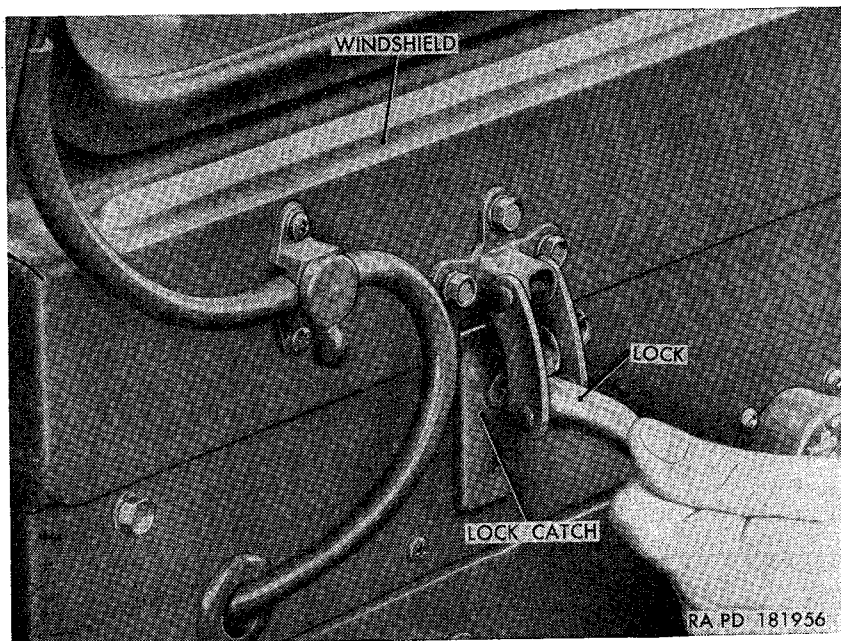
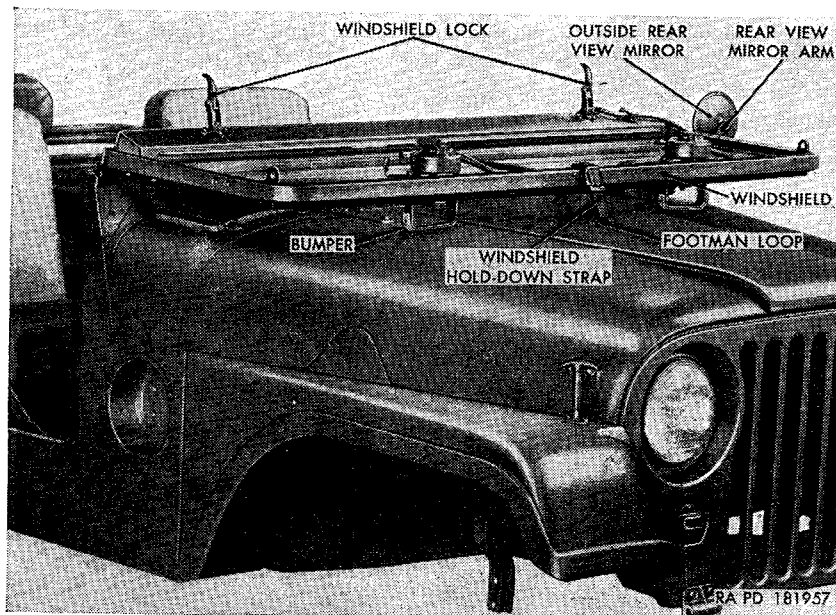

Figure 174. Unclamping windshield lock assembly.
Figure 175. Windshield assembly—lowered position.
a. Lowering. Unclamp the windshield lock (fig. 174) at each side of the windshield from the lock catch on the instrument panel. Carefully lower windshield forward until the two windshield-to-hood
bumpers rest on the hood. Secure windshield in lowered position by inserting the end of the windshield holddown strap with buckle assembly (secured on inner side of windshield frame) through the footman loop (fig. 175) on the hood and securing the strap in its buckle.
b. Raising. Unbuckle the windshield holddown strap (fig. 175) and withdraw strap from the footman loop on hood. Raise windshield to its upright position. Secure the windshield in raised position by clamping the windshield lock, at each side of the windshield, on the lock catch (fig. 174) on the instrument panel.